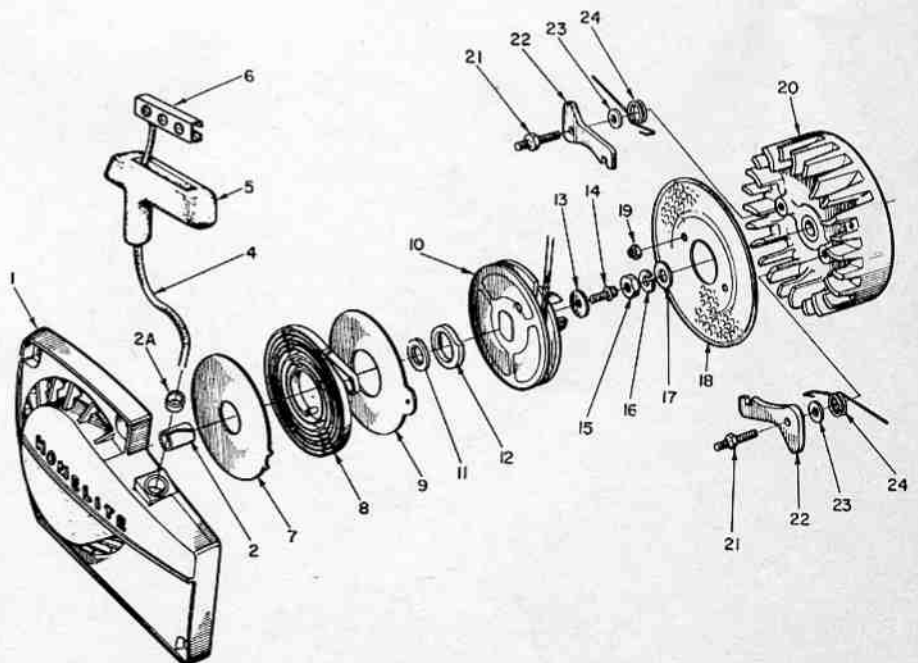

Fig. HL85—Exploded view of the ratchet type rewind starter assembly and engine flywheel.
**REWIND STARTER.** Refer to Fig. HL85 for exploded view of the ratchet type rewind starter. To disassemble starter after removing housing and starter assembly from engine, proceed as follows:
Check all starter parts for wear or other damage and renew as necessary. Rope bushing (2A) in housing should be renewed if rope notch is worn in bushing. When reassembling starter, lubricate starter post lightly and install spring without lubrication. Refer to exploded view in Fig. HL85 for reassembly guide. Pre-wind the spring about 2 to 4 turns.